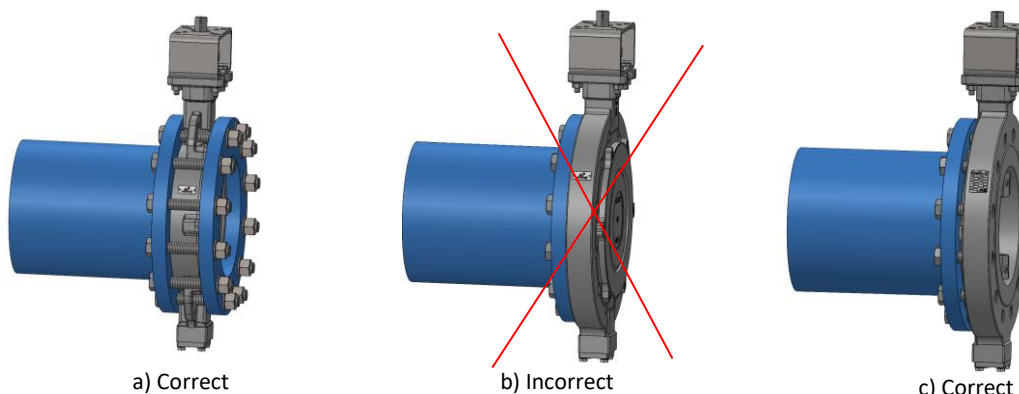

Fig. 7: Installation at the end of the pipe
- The valve is installed exclusively between pipe flanges. It can be installed at the end of the pipe only when using a counterflange or a "lug" version without a counterflange, but in the opposite direction (Fig. 7) and with reduced pressure ( $p_{prac} \times 0,7$ )